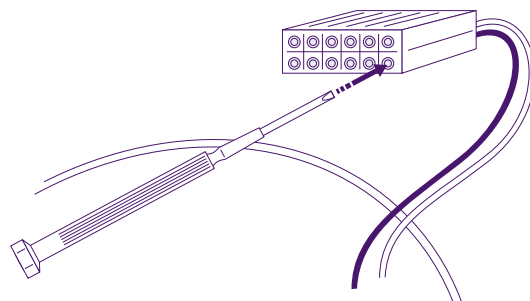

Figure 12. Power connector.
8. Disconnect the black wire and the white wire by inserting a 1/32" screwdriver into the corresponding slots in the power connector (see Figure 12).